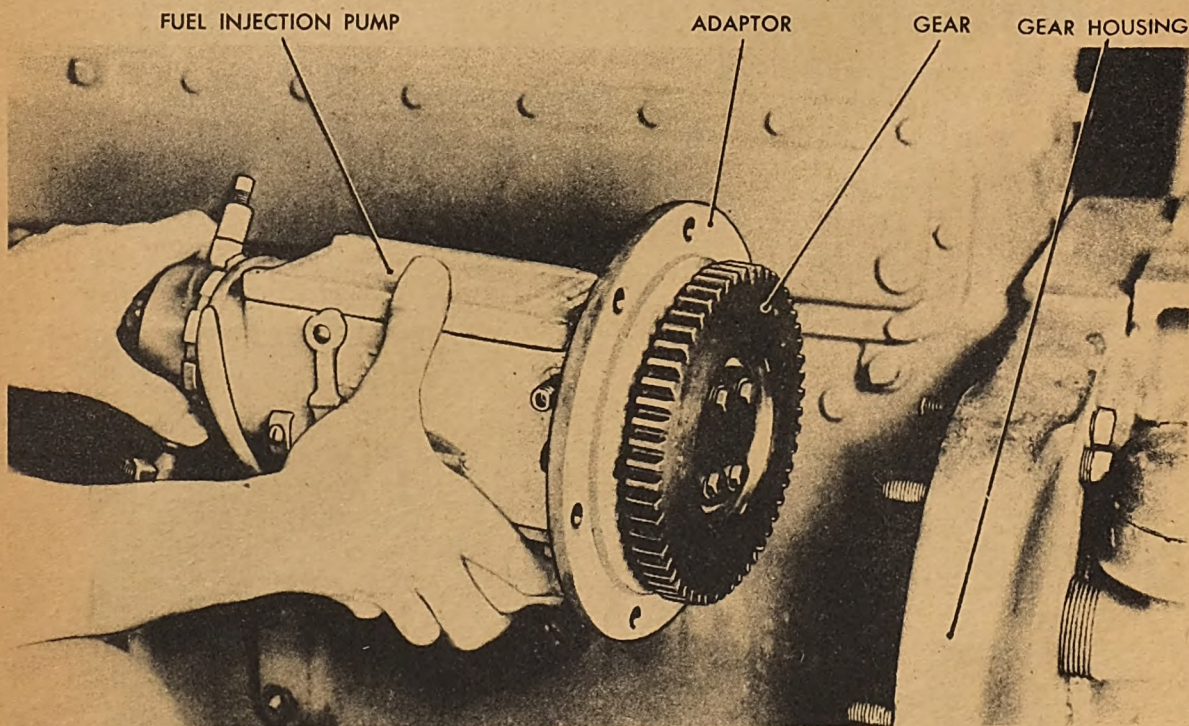

Fig. 81. Removing Fuel Pump
(11) Unscrew the five nuts and remove the one through bolt holding the fuel pump and adaptor to the gear housing. Pull the fuel pump and adaptor from the gear housing. (See Figure 81.)